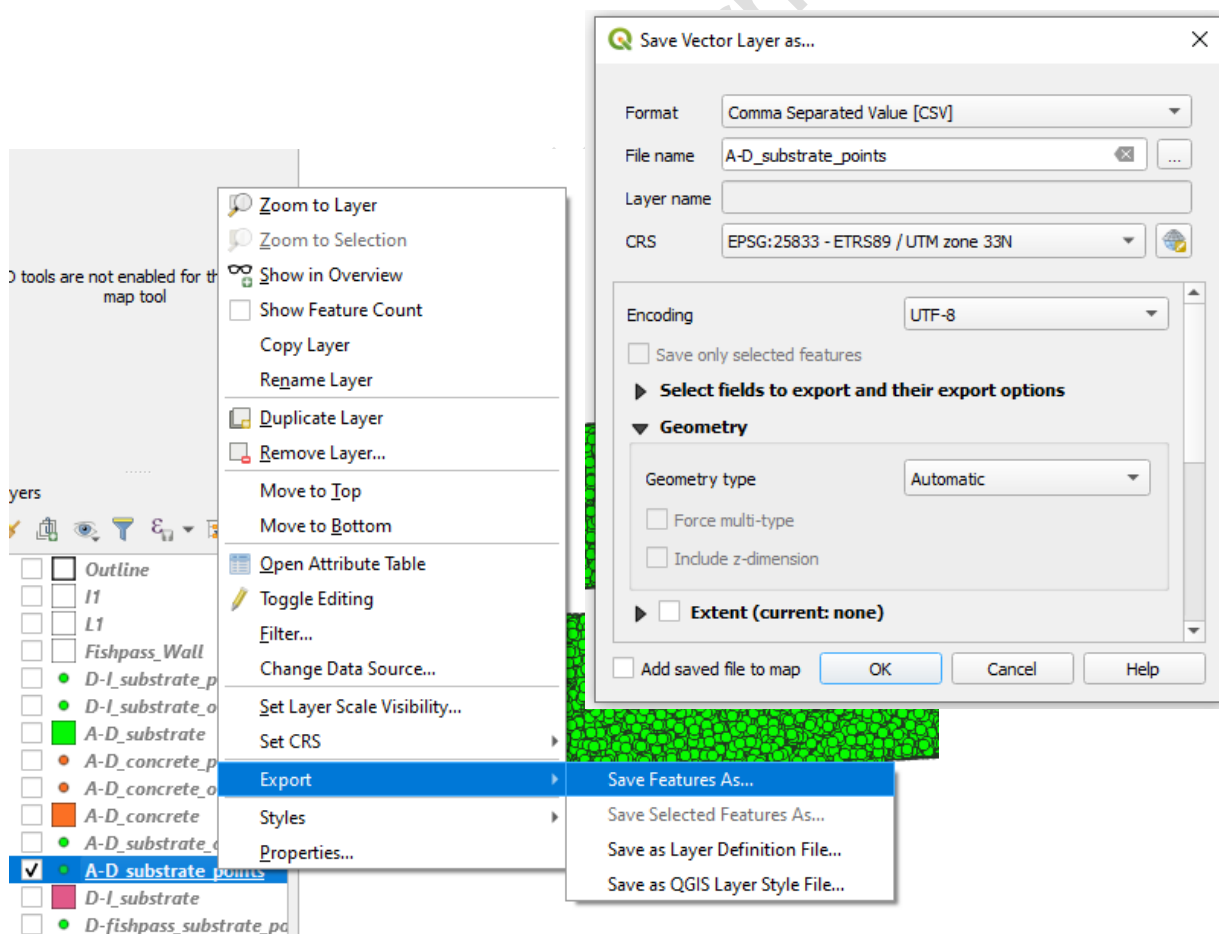

Figure 9: Save vector layer as CSV file.
- Export the point shapefile with the added x and y coordinate and roughness information as CSV file (Figure 9). If possible, use TAB as column separator.